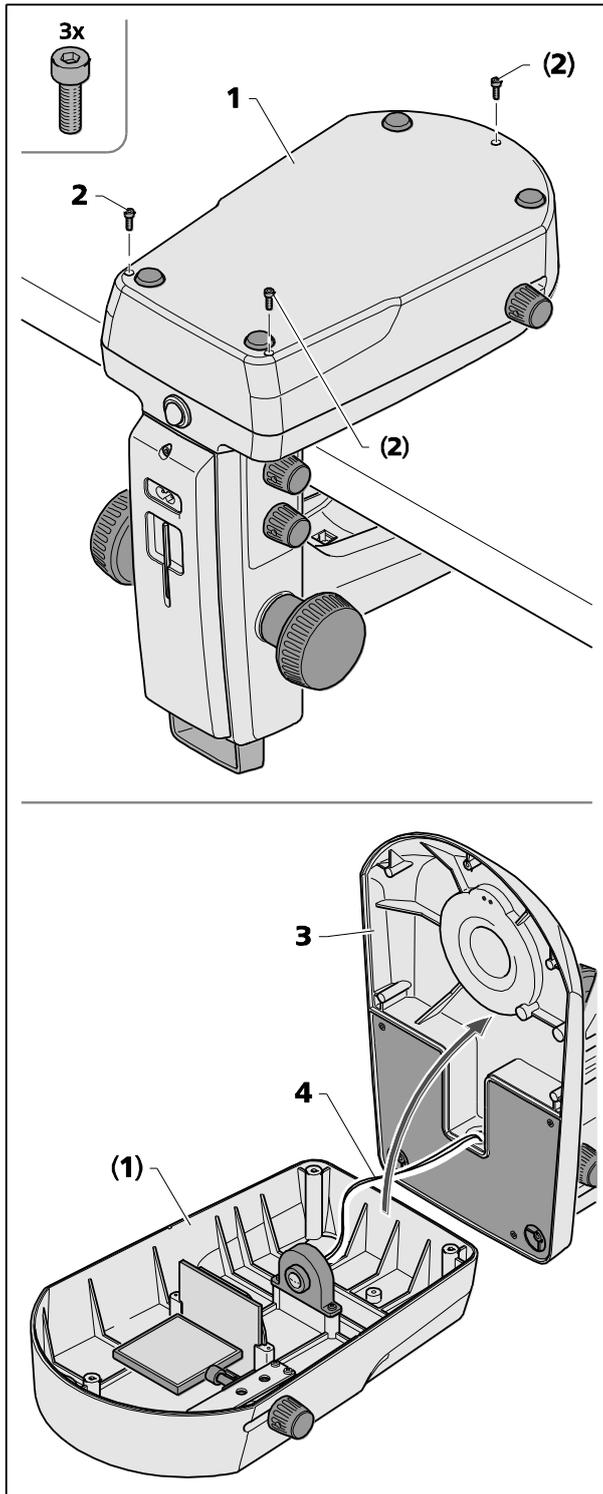

Fig. 29 Opening the stand cover plate,
The transmitted-light base (Fig. 29/1) can be removed from the stand cover plate (Fig. 29/3) for cleaning or for removal of any foreign matter which might have fallen in inadvertently.
- Release the three screws (Fig. 29/2) from the stand cover plate (Fig. 29/1) using an Allen key SW 2.5 and put them aside.
- Carefully lift the stand cover plate (Fig. 29/3) off the transmitted-light base (Fig. 29/1) and put the stand aside.
Make sure that the cable (Fig. 29/4) is not disconnected from the transmitted-light base (Fig. 29/1).